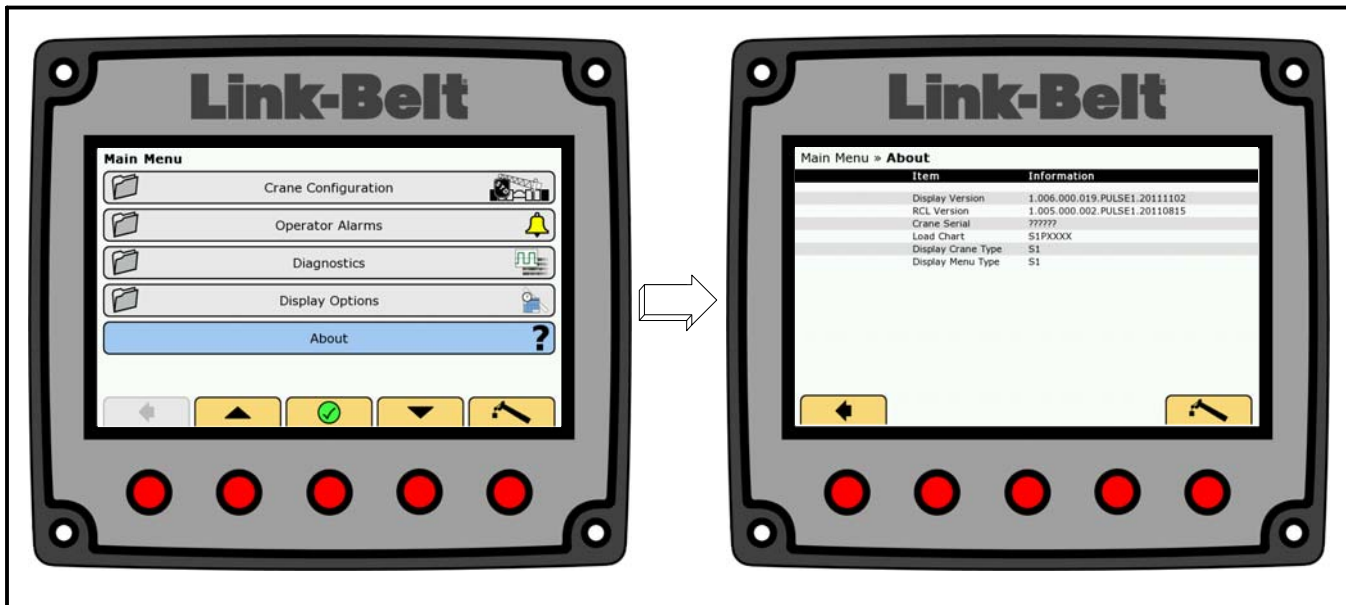

Figure 1–94
The About menu displays which version of the Display, ECM, and Boom Controller software is currently installed. Refer to Figure 1–94. The crane serial number is also displayed on this screen.
1. From the normal working screen, press the Main Menu button . Refer to Figure 1–81.